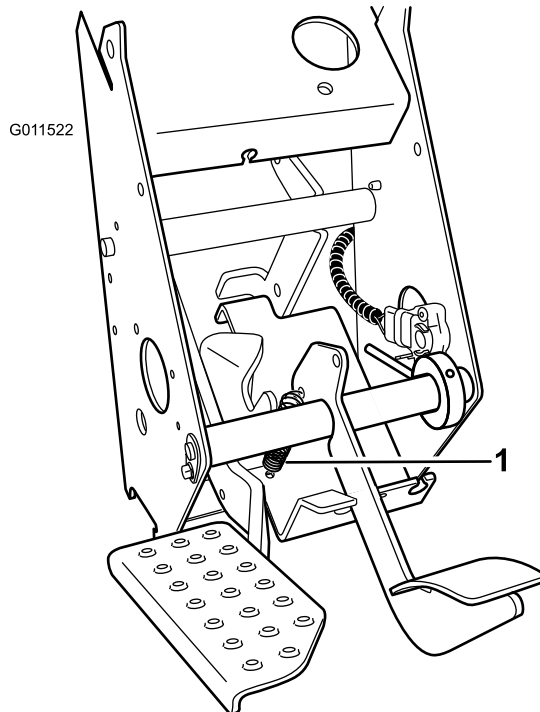

Figure 1
1. Disconnect the spring connecting the accelerator pedal to the pedal box assembly (Figure 1).